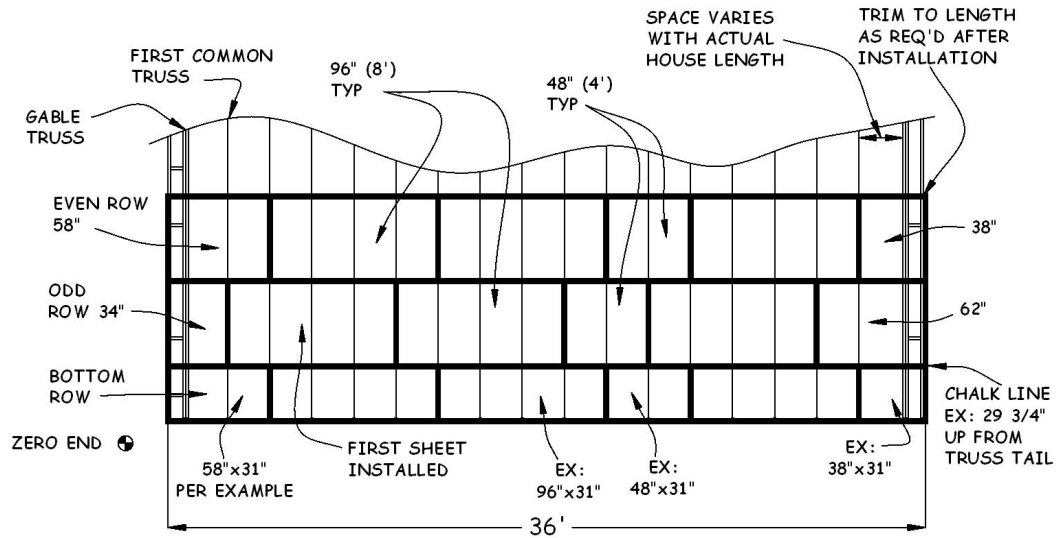
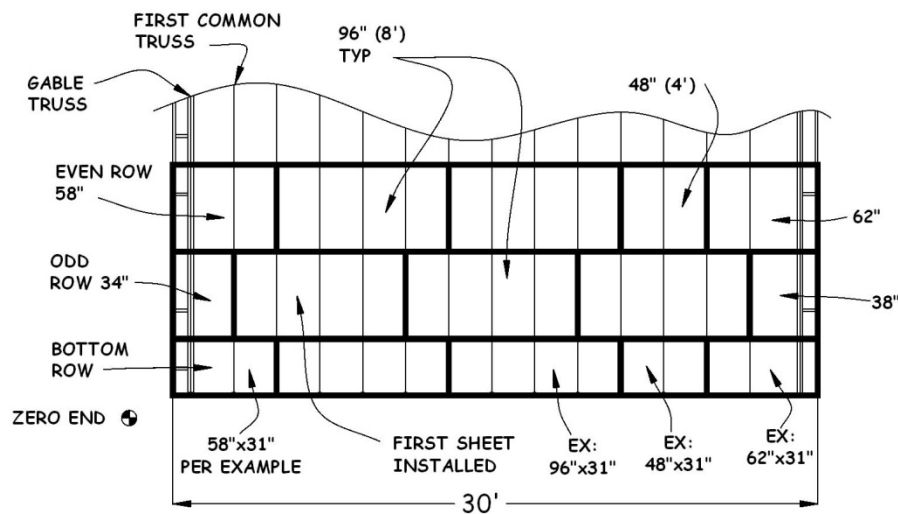

Figure 7-1. OSB Layout for 36' Roof.
Figure 7-2. OSB Layout for 30' Roof.
1. Refer to Figure 7-1 and Figure 7-2, below, which show examples of the roof sheathing layout for a 36' and 30' long roof, respectively. Note that each **odd** row has a **34" piece** at the zero end, and each **even** row has a **58" piece** on the zero end. Also, note that the **bottom row** is not full-width. The size of these **bottom row** pieces will be determined in Section 7.4.2.
4. Place two 34" and two 58" pieces on each eave side of the house at the zero end, and two each of the 38" and 62" pieces on each eave side of the non-zero end. There are typically 4 rows of sheathing on each side of the house, or 8 rows total. As shown in Figure 7-1, Figure 7-2, and Table 7-1, the 62" and 38" pieces are used on the non-zero end, but not necessarily in the same row as its corresponding cutoff.
5. Depending on the length of the house, a 4' piece may also be needed in the middle of the row to reduce scrap and to maintain the stagger of the joints between sheets. In the 36' example in Figure 7-1, a 4' piece is required in each row. Figure 7-2 shows a **4' piece in even rows only**. Referring to "**Total # of 4s**" in Table 7-1, determine the number of 4' pieces required. Cut full-width sheets in half to obtain the required number, label with the size, and place half of them on each eave side of the house near the middle.